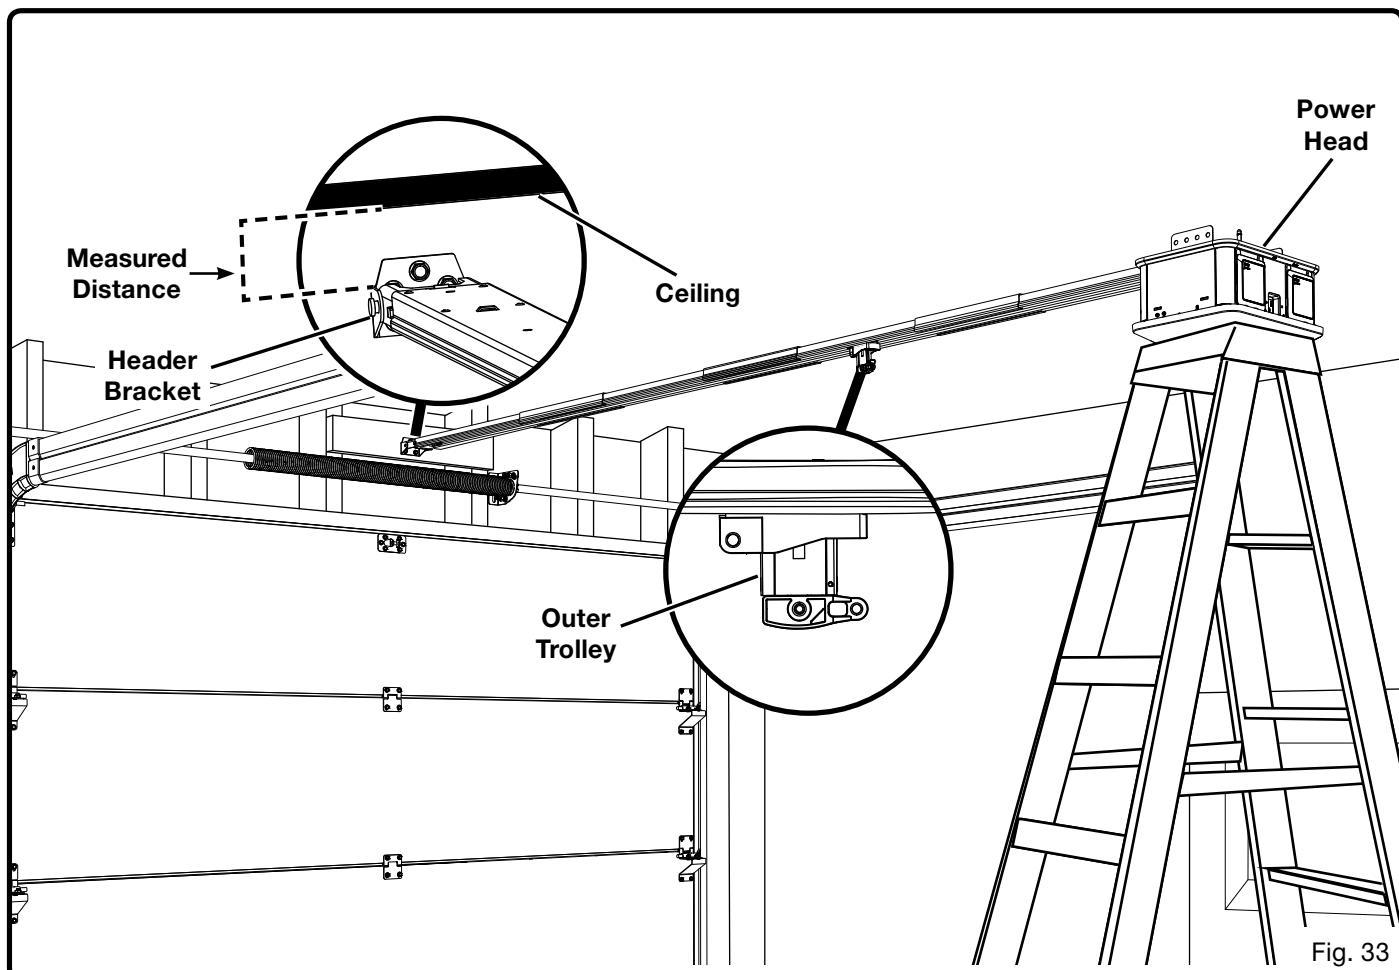

Fig. 33
See Figures 33 - 38.
- NOTE:** Mounting straps that will be attached diagonally should be cut longer than the vertical measured distance in figure 33.
NOTE: Mounting straps that will be attached diagonally should be cut longer than the vertical measured distance in figure 33.